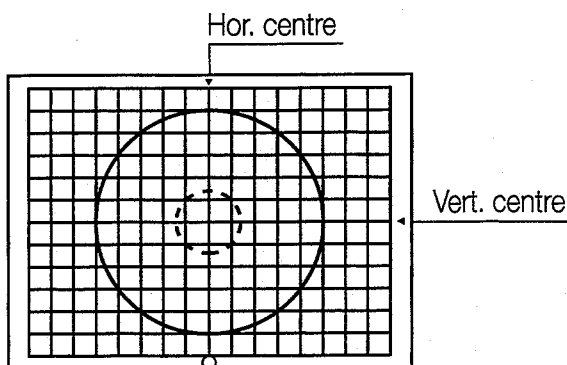

Fig. 7
1. Receive a crosshatch pattern (Fig. 7, input level 80dBu).
3. Check the horizontal line of the center cross-line it should meet the vertical centre mark (off center tolerance  $\pm 2\text{mm}$ )(See Fig. 7)
1. Keep the pattern reception as Fig. 7